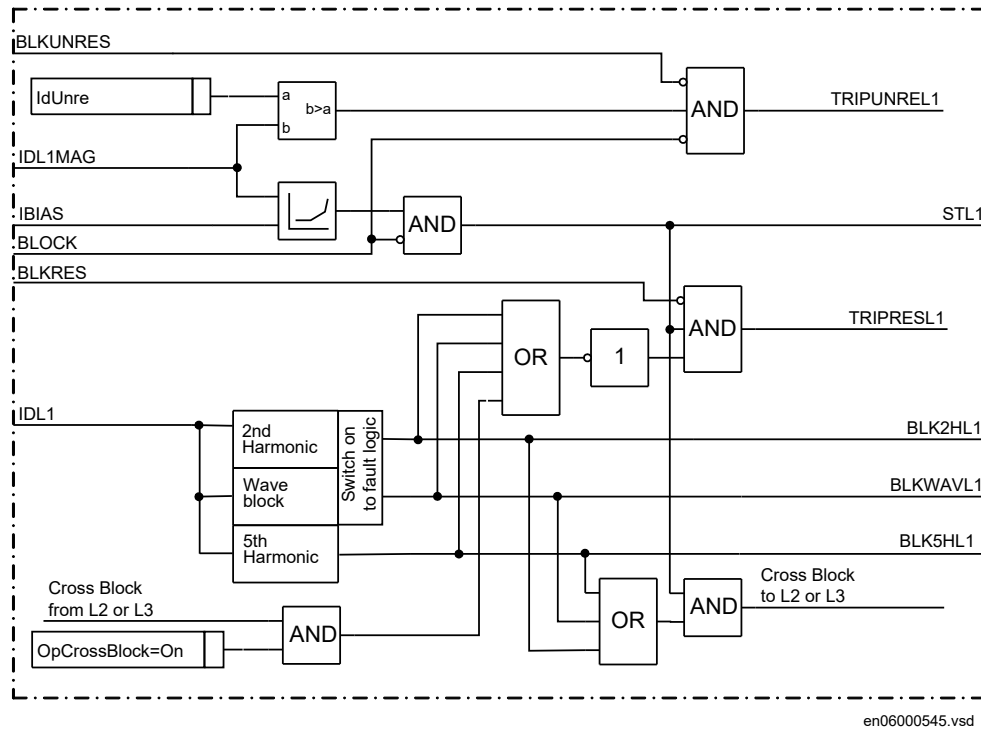

Figure 39: Transformer differential protection simplified logic diagram for Phase L1
5. If a start signal is issued in a phase (see signal STL1), even if the fault has been classified as an external fault, the instantaneous differential current of that phase (see signal IDL1) is analyzed for the 2nd and the 5th harmonic contents. If there is less harmonic pollution than allowed by the settings I_2/I_1Ratio , and I_5/I_1Ratio it is assumed that a minor simultaneous internal fault must have occurred. Only under these conditions a trip command is allowed (the signal TRIPRESL1 is = 1). The cross-block logic scheme is automatically applied under such circumstances. (This means that the cross block signals from the other two phases L2 and L3 is not activated to obtain a trip on the TRIPRESL1 output signal in figure 39)